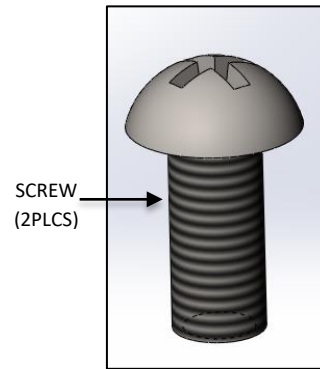

FIG.5 - SCREW
- b. ANCHOR BRACKET SCREWS (as shown in FIG. 5)